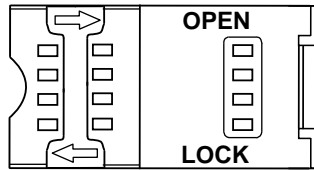

Figure 12 MSAM Cardholder Close-Up
- To unlock a cardholder, slide its locking plate to the unlocked position, shown by the OPEN arrow (Figure 12).
11. Lock each MSAM cardholder by sliding its locking plate, as shown by the LOCK arrow, until the plate stops (Figure 12).